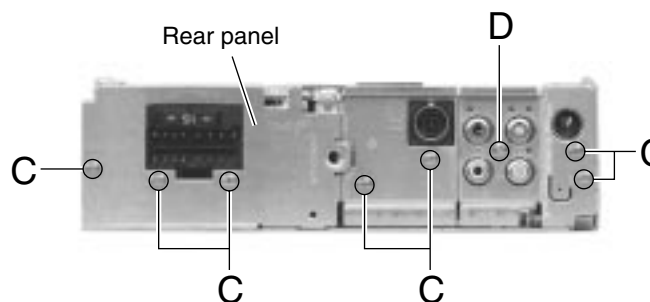

Fig. 7
■ Removing the rear panel (See Fig.7)